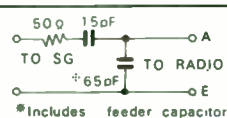
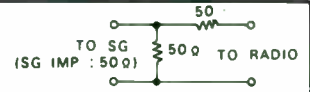

Fig. 1 Antenna Pad
Fig. 3 Antenna Pad
- Antenna Pad: Refer to Fig. 1 and Fig. 3.
- Connect the signal generator to the antenna receptacle through the antenna pad. (Fig. 1)
- Connect the signal generator to the antenna receptacle through the antenna pad. (Fig. 3)